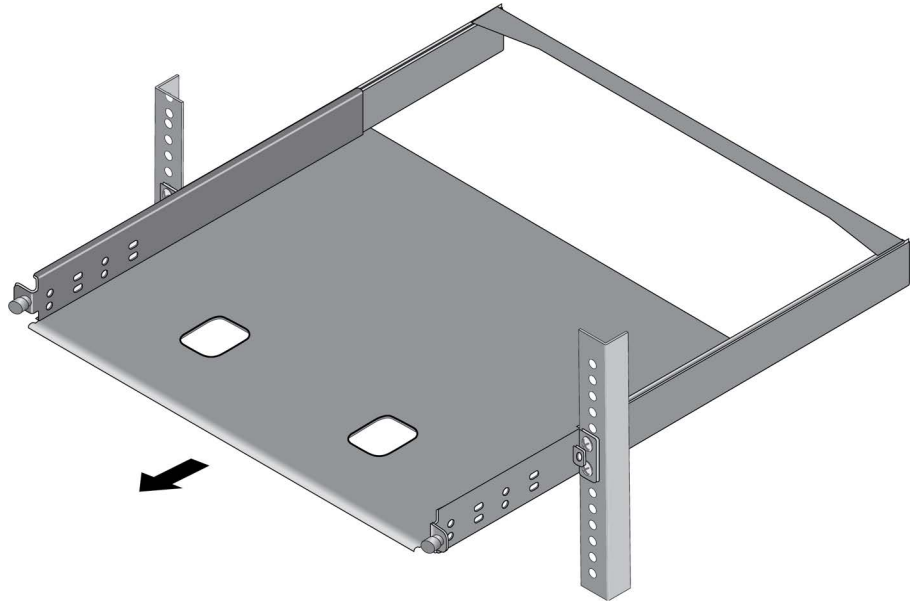

Figure 33. Sliding Out the Bracket of the RKMT-J15
- Slide out the bracket tray. Refer to Figure 33.